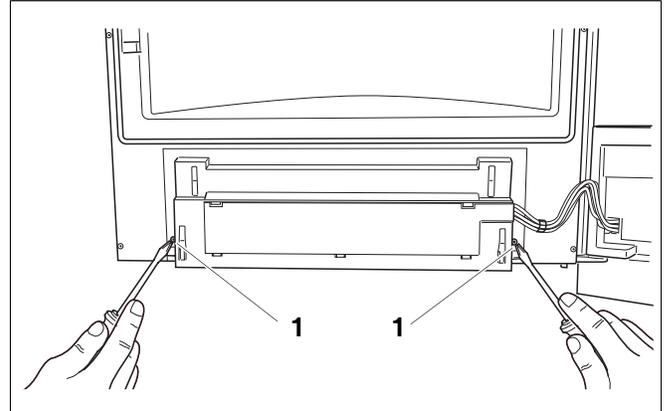

Fig. 96 Loosening the screws
- Loosen the 2 screws of the control panel at the rear side of the boiler door (fig. 96, pos. 1).